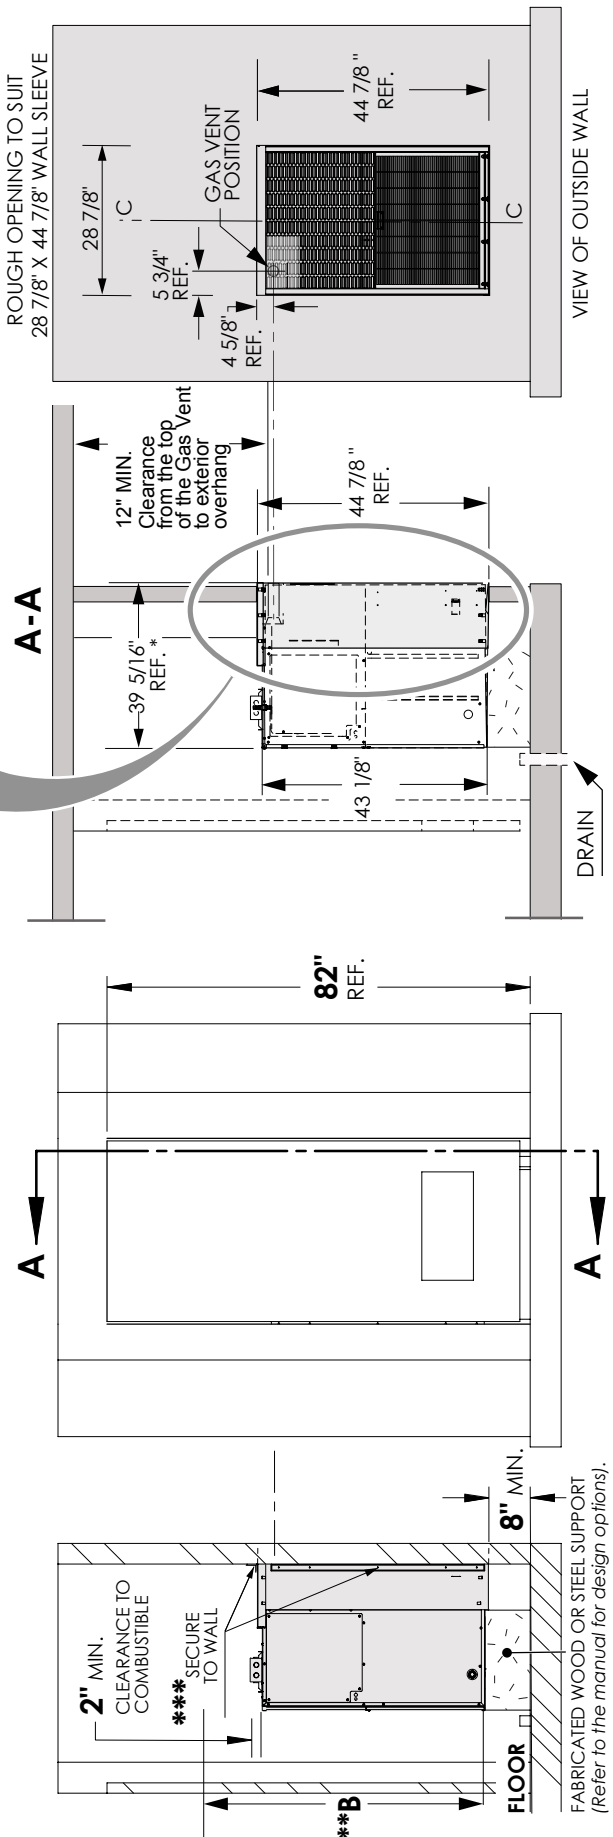

FIG. 4.2.2.B
- Do not install directly on carpeting, tile, or other combustible material other than wood flooring. The grille side of the unit must protrude minimum 1/2" but no more than 1" (maximum) from the face of the building and should not be obstructed by foreign objects. Refer to FIG. 4.2.2.B
**NOTE** \*\*\* REFER TO FIGURE 4.2.2.A, PAGE 14.